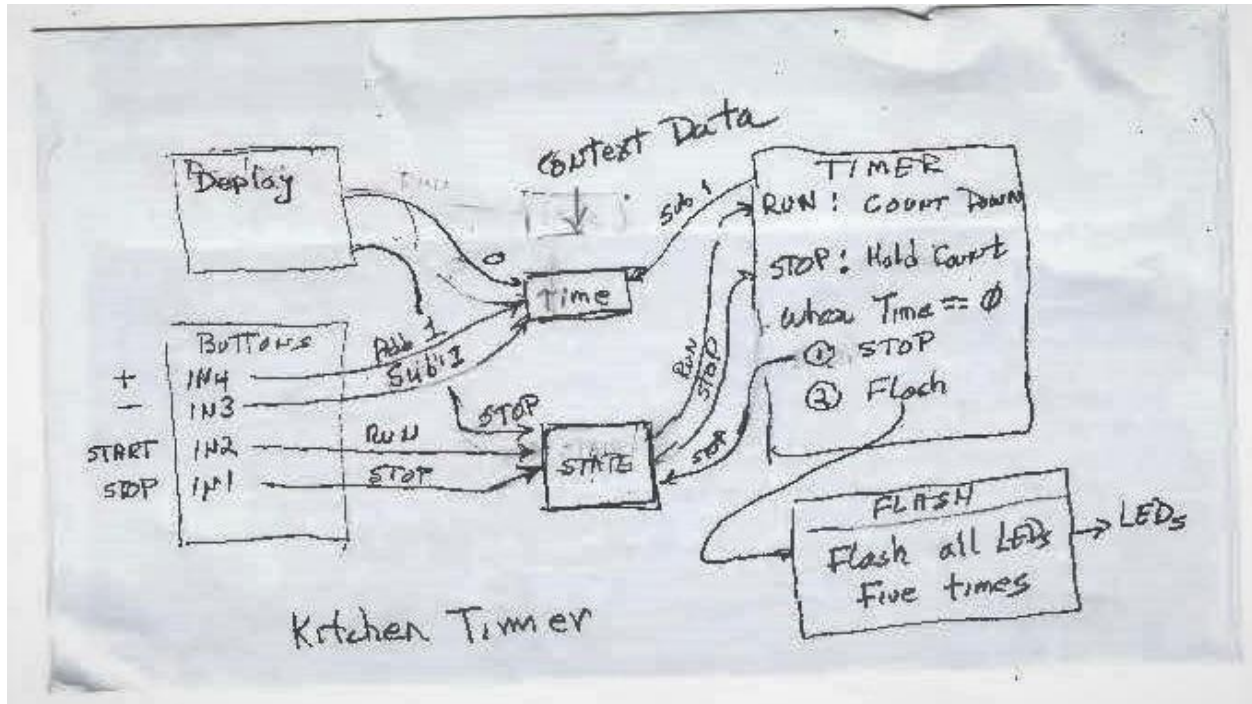

Figure 5-85: Sketch of Possible Approach
Look at the sketch on the back of the envelope (Figure 5-85). Maybe the next flow to develop is the one related to the buttons (but, you might have a better idea). Open up a new flow tab and name it: “Buttons”. Your initial flow is just going to update the State and Time context variables according to the specification. You will find out later that you will need to do more than this, but this is a good place to start with the buttons. Here is initial Button flow for the Start and Stop buttons.
Next up: augment the Button flow with the Add One Second and Subtract One Second flows. These are more complex than the START/STOP button flows because you need to perform minor arithmetic with JSONata. Look back at Figure 5-85. It looks like all you need to do is add or subtract one second from the State variable. However, you must also keep the time from going above 15 or below 0 because that is part of the specification (items 3 and 4) and the limit of the four LED display. Do you think the flow below will do the trick ("Take 1" because you are going to need to enhance it later, but good enough for now.)
See if you can construct this flow based on Figure 5-85. When you click the Inject node labeled “START”, it is going to inject a message to kick off the loop. What should that message be? It might be a payload with *global.Time* in it, or it could be an arbitrary message just to activate the loop. You may have other ideas. In this example it is the latter, simply a Boolean *true*, whose only purpose is to activate each node.